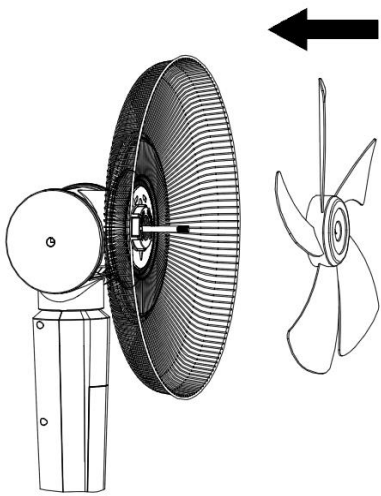

Figure 4
4. Fit the fan blade onto the motor axel. Tighten the blade screw in counter-clockwise direction (Figure4).